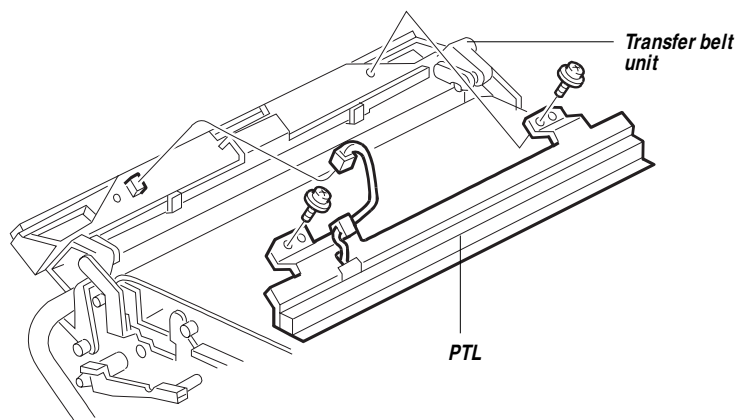

Figure 3-22 Installing the PTL
3. ***Replace the PTL on the transfer belt unit with the PTL provided in this kit (see Figure 3-22).***